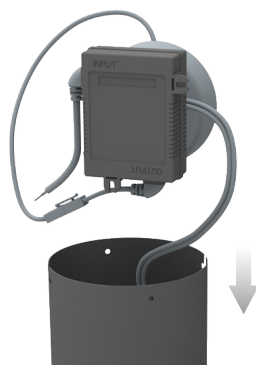

Fig 2.3
2.3 Put the control box and adapter together back into the fan bucket as shown in Fig 2.3.